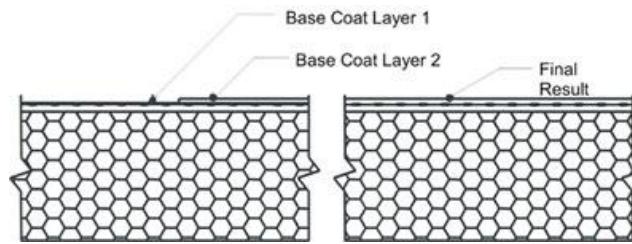

Figure 13
- a. The base coat shall be applied such that the resulting overall minimum base coat thickness is sufficient to **fully embed** the reinforcing mesh. The recommended method is to apply the base coat in two (2) passes.
- 3) Allow the base coat mixture to take up until firm to the touch. Trowel a second tight coat of the base coat mixture over the first coat to **fully cover** the reinforcing mesh - Figure 13. The result should be such that the reinforcing mesh is approximately centered within the base coat thickness. Do not allow the first pass to completely dry prior to the second pass application or an excessive amount of base coat mixture will be necessary to fully coat the wall surface.